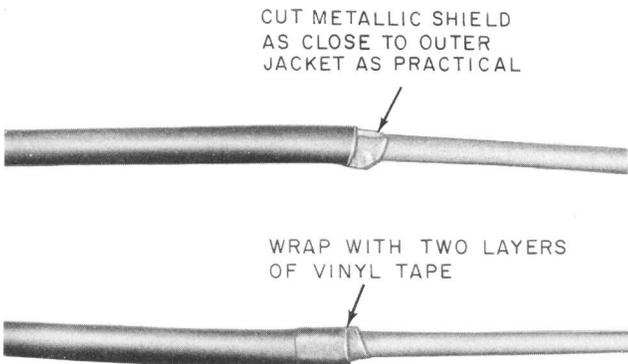
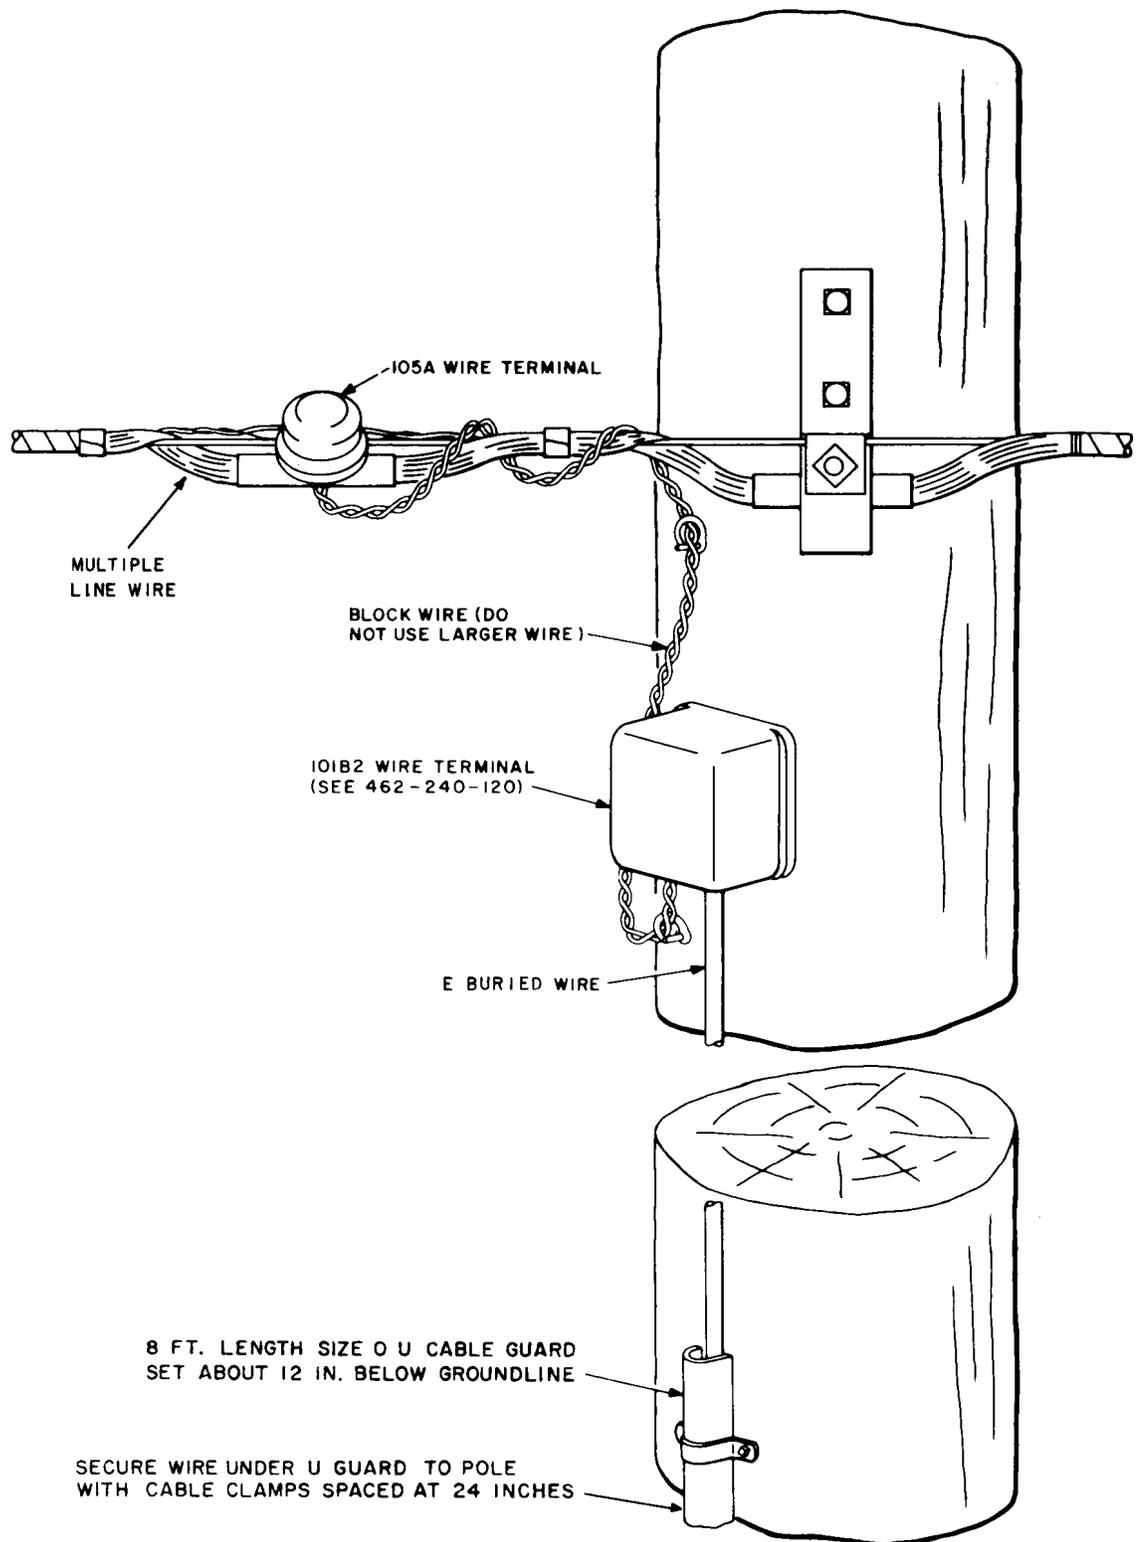
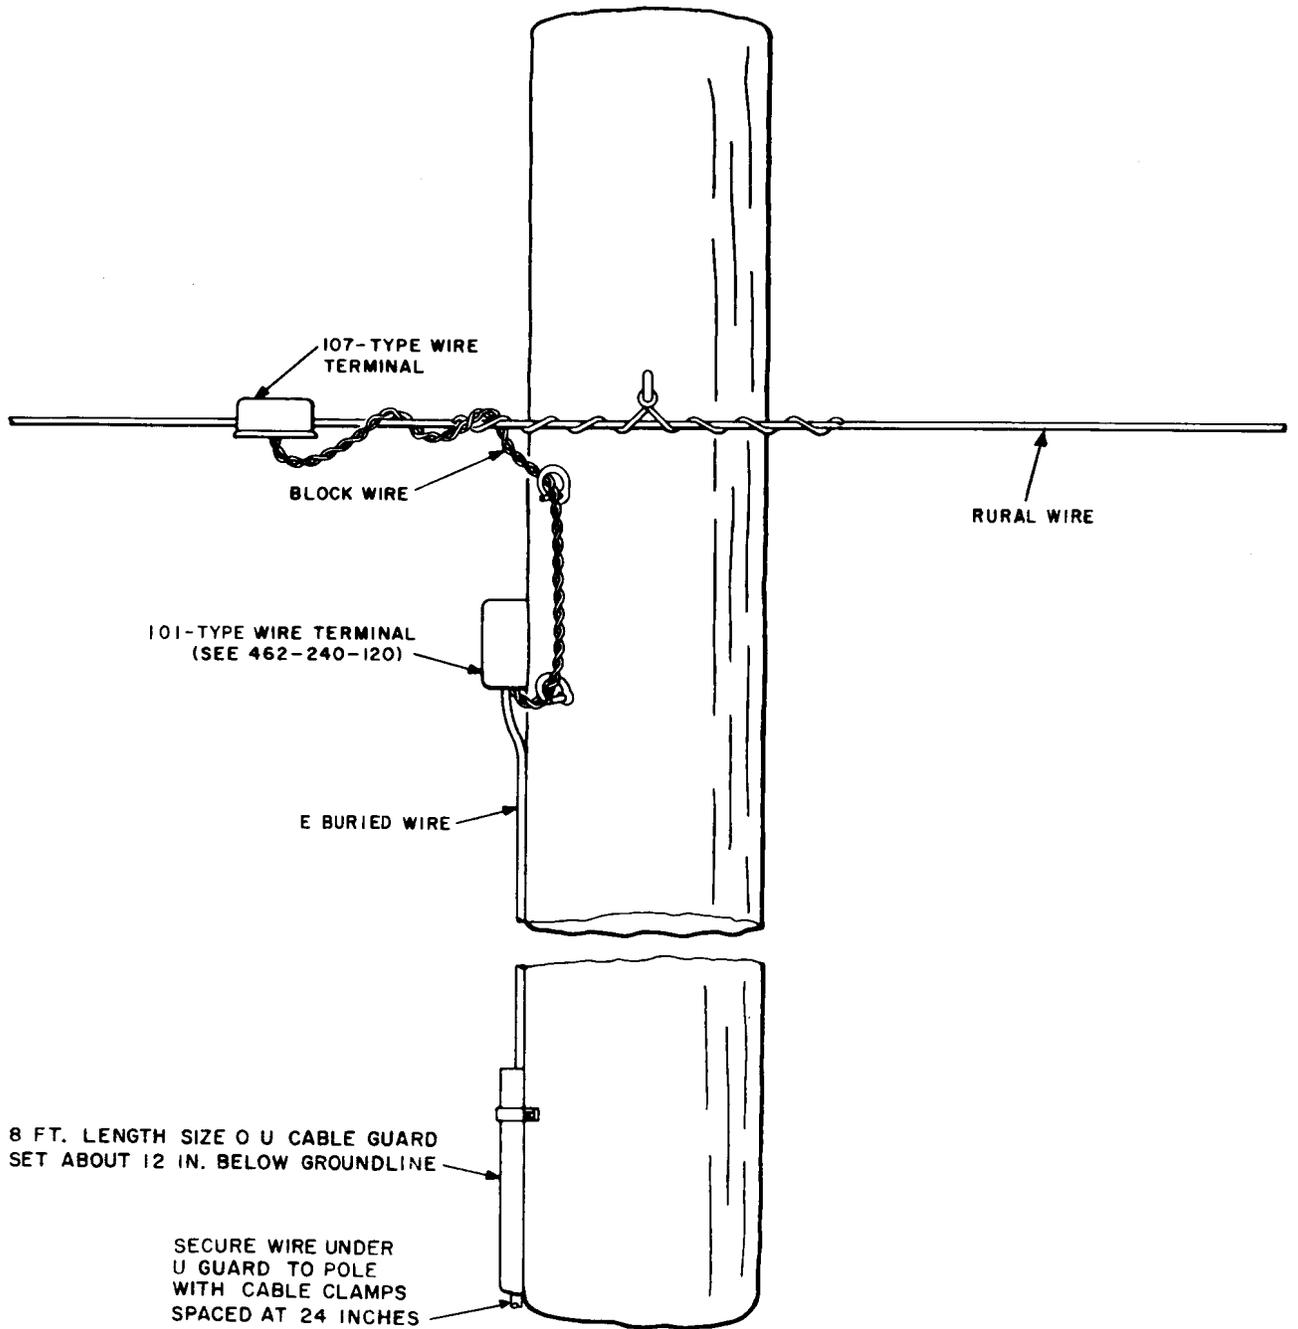
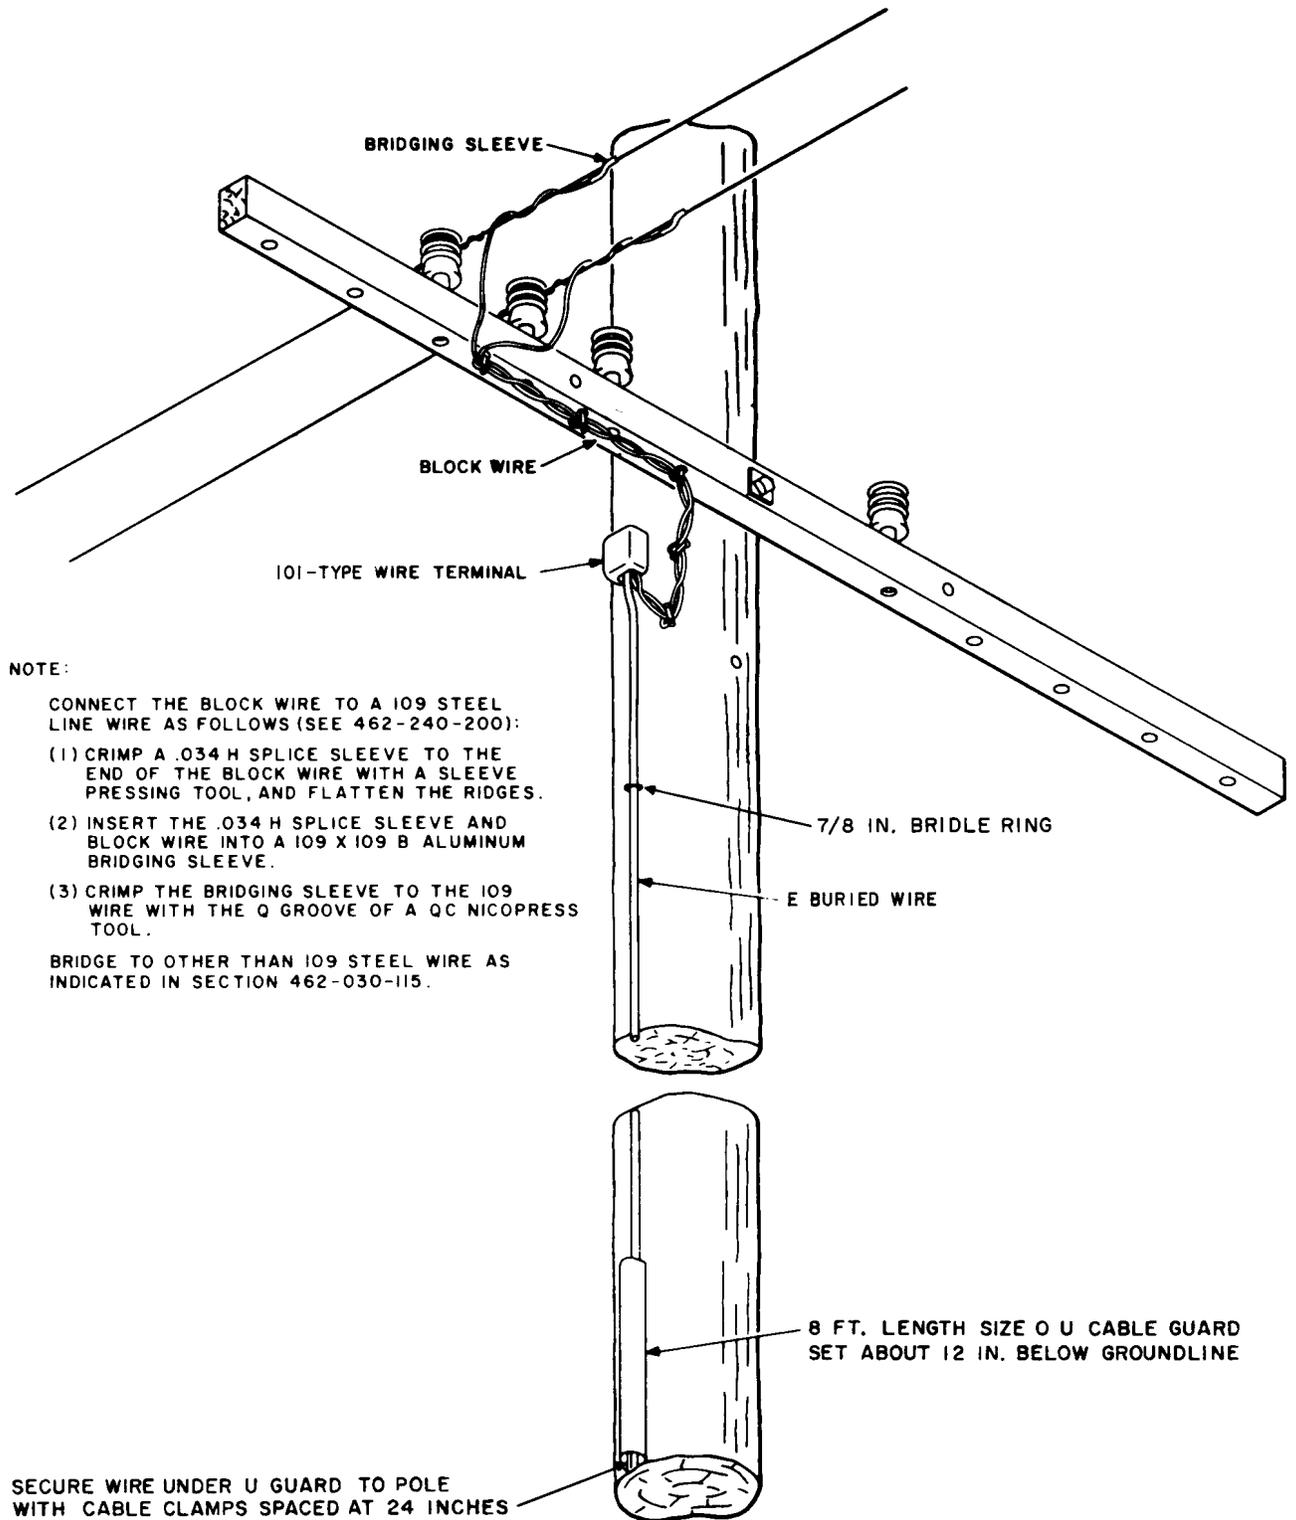

Fig. 38—Removal of Metallic Shield
Fig. 41—E Buried Wire Terminated at Multiple Line Wire
Fig. 42—Termination of E Buried Wire and Rural Wire
Fig. 43—Termination of Buried Wire and Open Wire
11.04 Where the buried wire is 700 feet or less in length, grounding of the metallic shield at the cable terminal is omitted. Cut off the metallic shield at the terminal location and wrap with two turns of vinyl tape to protect against sharp edges (Fig. 38).
12.02 E buried wire can be used with or fed from multiple wire where the multiple wire is exposed to power contact and fuseless station protection is used. E buried wire should be brought up a pole and terminated in a 101B2 wire terminal. The metallic shield should be cut back and taped as shown in Fig. 38. Connect the conductors of E buried wire to the conductors of the multiple wire with block wire. At the groundline, the wire should be covered with an 8-foot length of No. 0 U cable guard. Figure 41 shows a typical example of E buried wire being connected to a 105-type wire terminal.
13.02 At the junction with C rural wire, E buried wire can be brought up a pole and terminated in a 101B2 wire terminal. The metallic shield should be cut off and taped as shown in Fig. 38. Block wire should be used to bridle between the 101B2 wire terminal and the 107-type wire terminal on the C rural wire. At the groundline, the E buried wire should be covered with an 8-foot length of No. 0 U cable guard. A typical installation is shown in Fig. 42.
14.02 At the junction with open wire, E buried wire can be brought up a pole and terminated in a 101B2 wire terminal. The metallic shield should be cut off and taped as shown in Fig. 38. Block wire must be used between the protector and the open wire. At the groundline, the wire should be covered with an 8-foot length of No. 0 U cable guard. A typical installation is shown in Fig. 43.